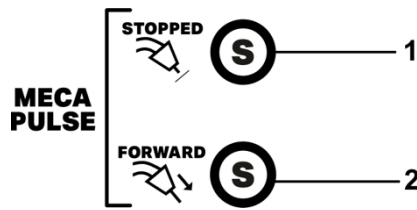

Fig. 7
- When selected, it allows welding in Mecapulse mode. The speed of the drive motor oscillates between two values STOPPED (1-Fig.7) and FORWARD (2-Fig.7) during the selected time, allowing to weld distant parts without spatter and distortion. It replaces with advantages the electronic pulsed mode.